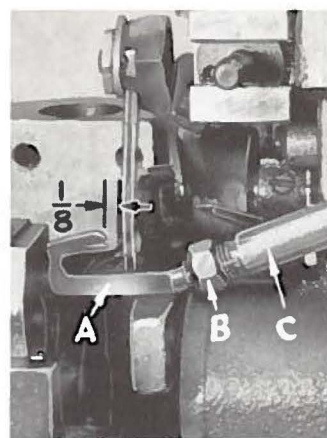

Fig. 5
At this point, insert lower spreader (A, Fig. 5) into bar (C). With lower spreader at the left end of its stroke, set the spreader point $\frac{1}{8}$ inch from center of left needle, using looper gauge No. 21225 G- $\frac{1}{8}$. Do not have lower spreader deflecting the needles. Tighten nut (B).